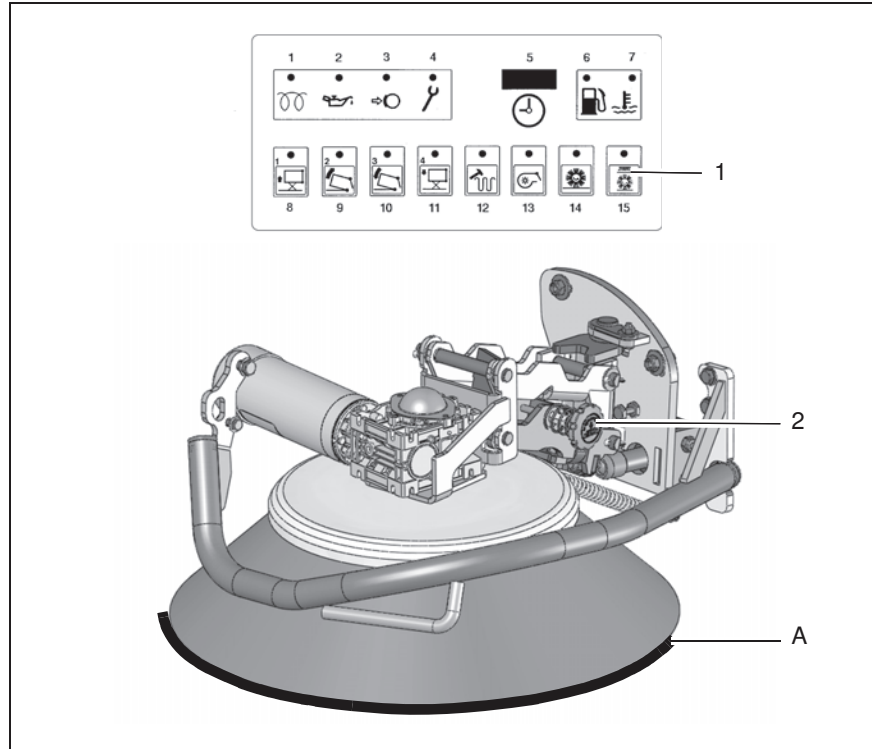

Fig. 4
Press the switch (Fig. 4/1) to activate the side brush.
Check the side brushes (Fig. 4/2) every week for signs of wear. In the event of wear or after the side brushes have been changed, proceed as follows to complete the necessary adjustments:
2. Adjust the contact surface of the side brush using the adjusting bolt (Fig. 4/2). The contact surface of the side brush should amount to approximately half the brush circumference and begins at about the position (Fig. 4/A).